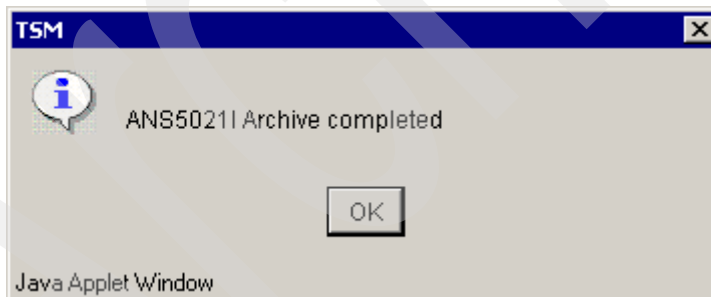

Figure 5-35 Archive complete
2. Click the **Archive** tab to archive these files using the default (creation-based management class). Once the Archive is complete, the message box shown in Figure 5-35 displays.